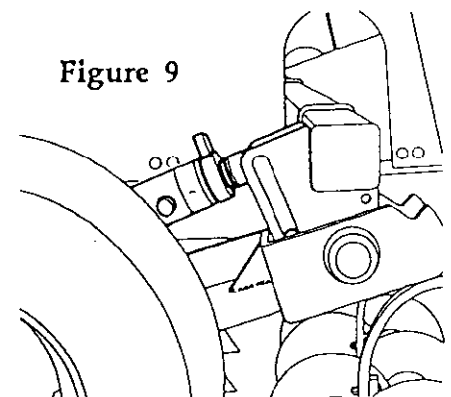

Figure 9
- 2/ Set both depth wheels **EVENLY** at the desired working depth and tighten the locking collar or retaining bolt firmly. (See figure 9)